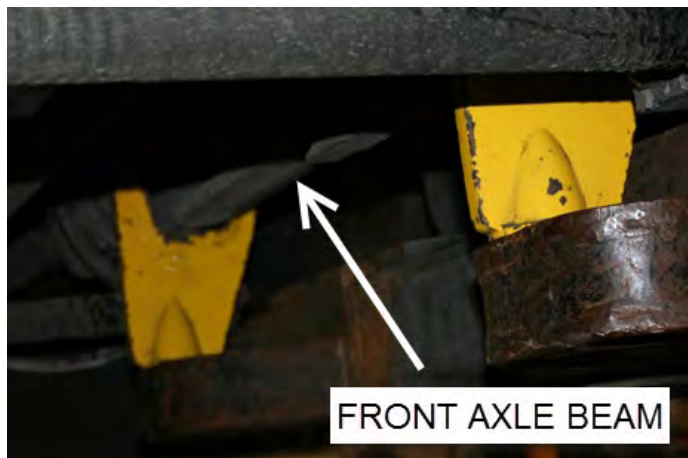

Figure 51
4. Lift the tow bar until the axle forks grab the front axle I-beam at the hoisting points (Figure 51 & Figure 52).